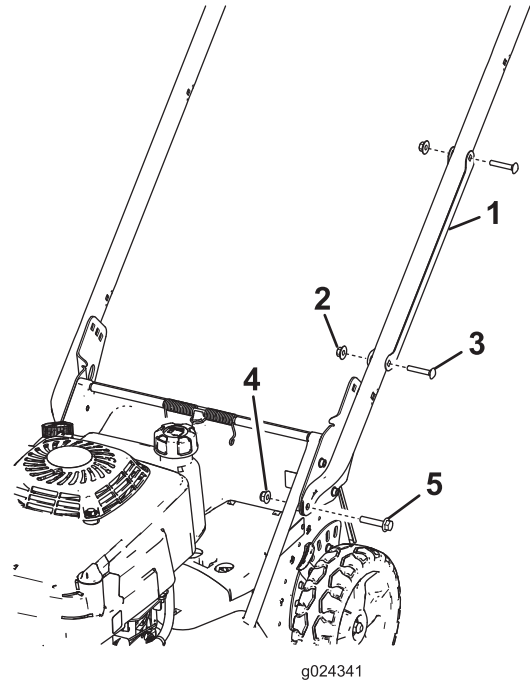

Figure 3
1. Remove the cable guard from the handle (Figure 3) by removing the 2 carriage bolts and 2 locknuts that hold the cable guard to the handle.
2. Install the handle ends onto the machine housing with 2 hex-head-flange bolts (5/16 x 1-1/2 inches) and 2 flange nuts (5/16 inch) as shown in Figure 3.
1. Carriage bolt—5/16 x 1-1/2 inches (2)
2. Handle bracket (2)
3. Flange nut—5/16 inch (2)
6. Position the cable guard onto the handle with the cable(s) inside the guard, and secure the guard to the handle with the 2 carriage bolts and the 2 locknuts that you previously removed (Figure 3).